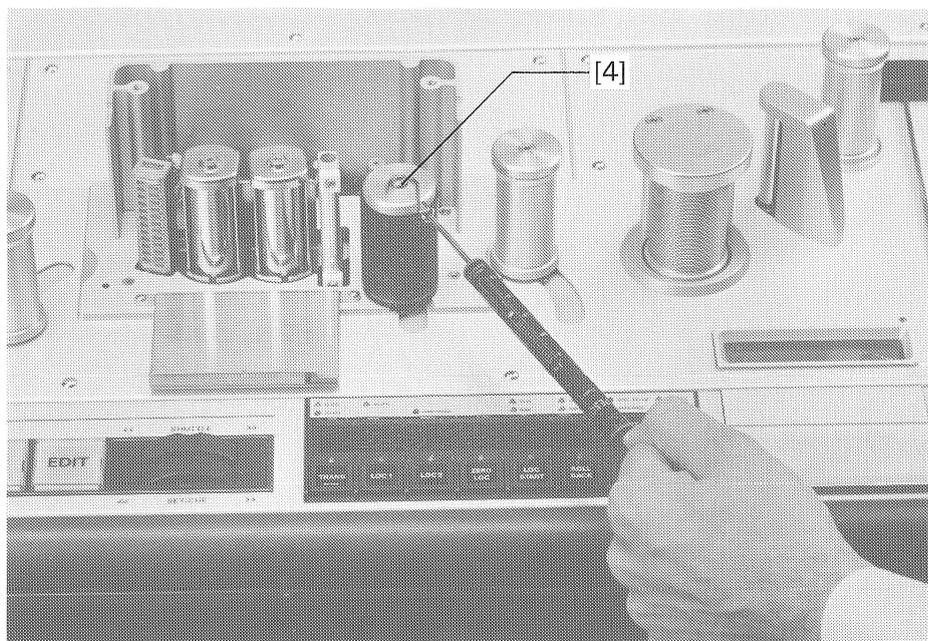

Fig. 26 Measuring the pinch roller force
- Lightly turn out the screw [4], Fig. 26, on the pinch roller cover.